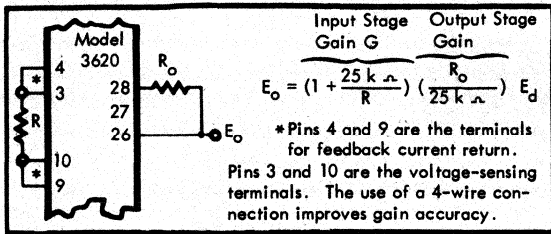

FIGURE 12.
- (1) The gain is set by one external resistor according to the gain equation  $G = 1 + 25\text{k}\Omega/R$ , where R is the external resistor. For gains from 1 to 100, the accuracy of this equation is  $\pm 0.1\%$ . For a gain of 1000 it is typically accurate to  $\pm 0.5\%$ . For higher values of gain, see the discussion under Wide-Range Gain Adjustments and Figure 12.
- (2) The  $\pm 10\text{V}$  input range is subject to the limitation that  $|E_{CM}| + |G E_d/2| \leq 10\text{V}$ .
Gain may be conveniently adjusted by two methods with the 3620. First, the gain resistor R can be varied to set the input stage gain. But the gain may also be varied by changing the feedback of the output op amp. With all other connections as shown in Figure 10, the circuit for varying gain over a wide range by varying the output stage gain is shown in Figure 12. For specified gain accuracy, a four-terminal connection to the gain-setting resistor R should be used.